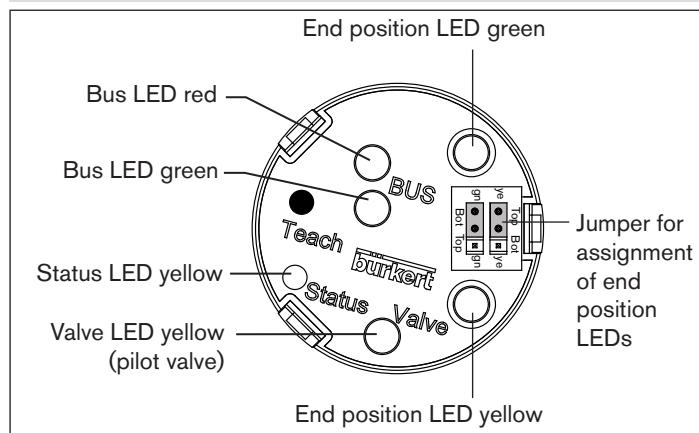

Fig. 16: Display Elements AS-Interface
4) Color setting ex works. Can be set via jumper (see "Fig. 16").